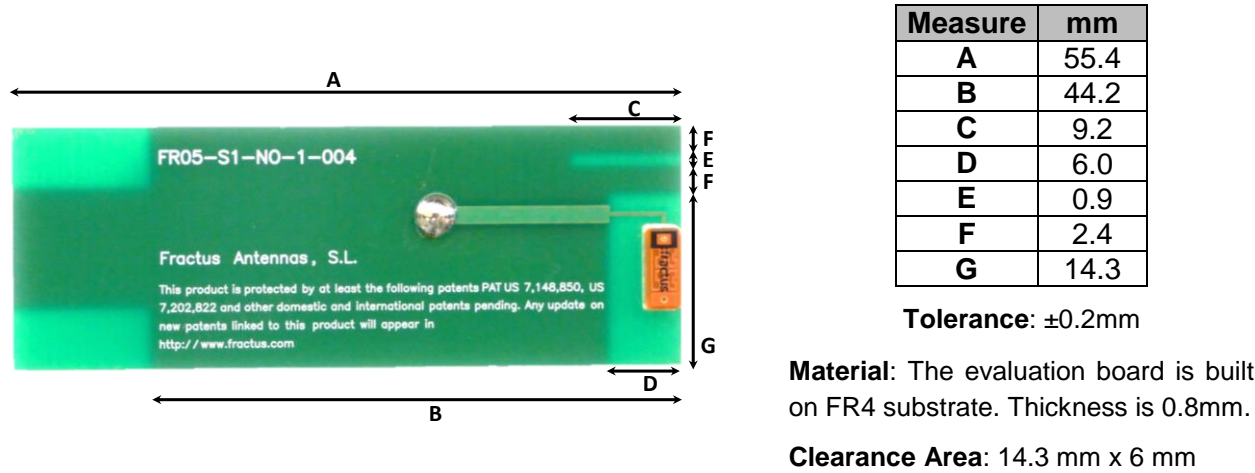

Figure 1 – EB\_FR05-S1-NO-1-004. Compact Dual-band Reach Xtend™ Evaluation Board.
**Table 1** – Technical Features. Measures from the evaluation board. See Figure 1 and picture in page 5.
The Fractus Antennas configuration used in testing the Compact Dual-band Reach Xtend™ Chip Antenna is displayed in Figure 1.